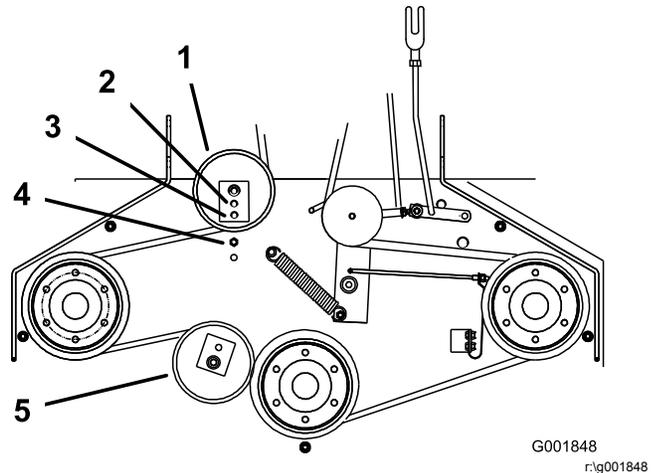

Figure 45
6. If there is no adjustment left in the turnbuckle and the belt is still loose, the rear idler pulley needs to be positioned to the middle or front hole (Figure 45). Use the hole that will give the correct adjustment.
7. When you move the idler pulley, you must move the belt guide. Move the belt guide to the front position (Figure 45).